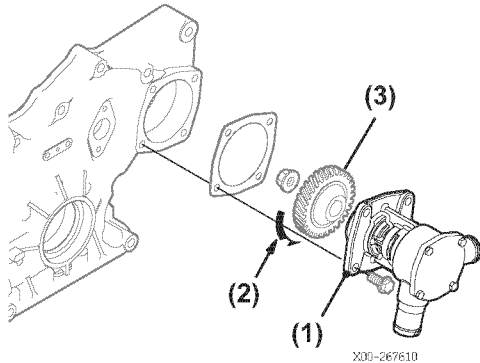
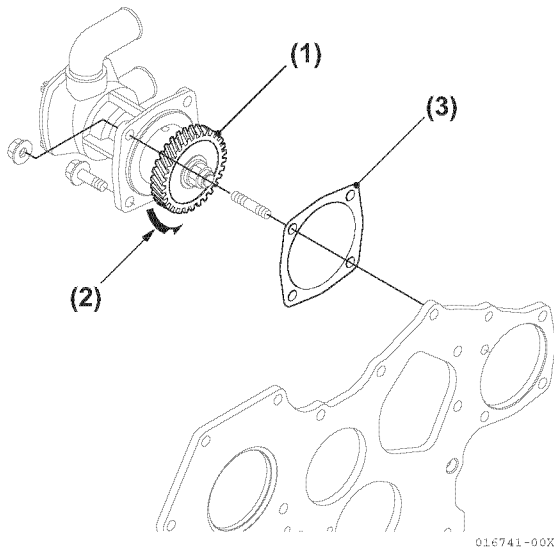

Figure 7-32
Figure 7-33
The seawater pump is driven by the gear (Figure 7-32 (3)), (Figure 7-33 (1)).
1. Drain the seawater by loosening the bolts of seawater pump side cover (Figure 7-32, (1)).
3. Remove seawater pump drive gear (Figure 7-33, (1)).